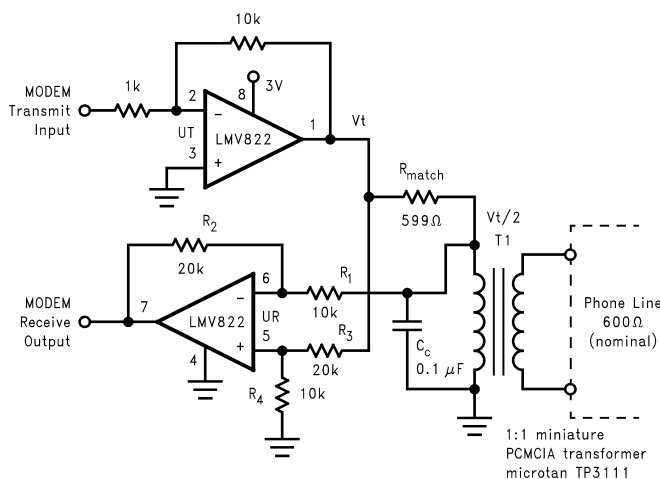

Figure 38. Telephone-line Transceiver for a PCMCIA Modem Card
The telephone-line transceiver of Figure 38 provides a full-duplexed connection through a PCMCIA, miniature transformer. The differential configuration of receiver portion (UR), cancels reception from the transmitter portion (UT). Note that the input signals for the differential configuration of UR, are the transmit voltage (V_T) and $V_T/2$. This is because R_{match} is chosen to match the coupled telephone-line impedance; therefore dividing V_T by two (assuming $R_1 \gg R_{match}$). The differential configuration of UR has its resistors chosen to cancel the V_T and $V_T/2$ inputs according to the following equation: